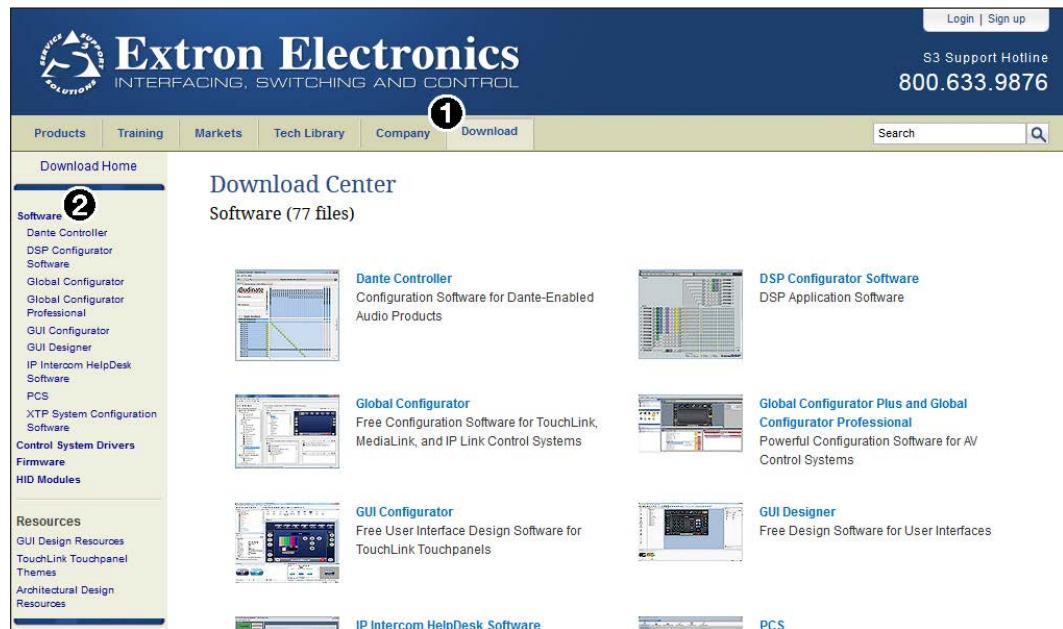

Figure 32. Download Center Page on the Extron Website
1. On the Extron website, select the **Download** tab (see **figure 32**, **①** on page 67).
2. From the left sidebar, click the **Software** link (see **figure 32**, **②**).